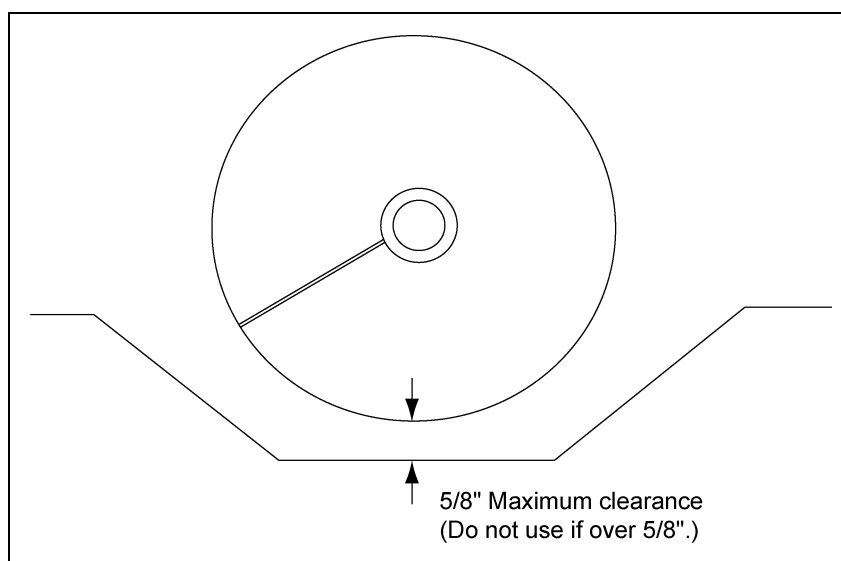

Figure 4F
**NOTE:** If there is more than 5/8" gap between the bottom pan and the outer edge of the flighting, do not use a sensor in that location. Use another location, such as a take-away auger. (See Figure 4F.)